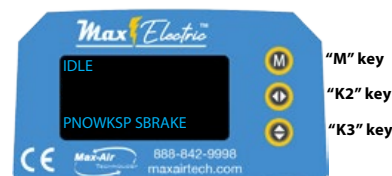
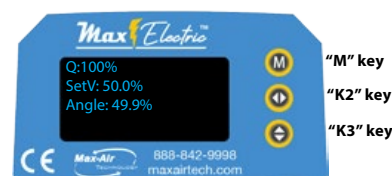

Fig. 2a
Fig. 2b
**Default Operating Modes: (refer to Fig 2a & 2b)**
2. When the unit is powered up and has no analog signal present, the display will indicate "IDLE" or "PNOWKSP SBRAKE" (See Fig 2a). With an active analog signal, the display will provide stored energy remaining if the unit is a super-cap model, and dynamic data on the actuator positioning (Fig 2b). Note that the actuator may not fully reach 0.0% or 100.0% depending on pre-programmed limits and how the actuator was mated to the valve.
3. After about 120 seconds of receiving no new commands, the display will return to "IDLE" or "PNOWKSP SBRAKE" (Fig 2a). Any change in command (or pressing the M key) will wake up the display to show current status.